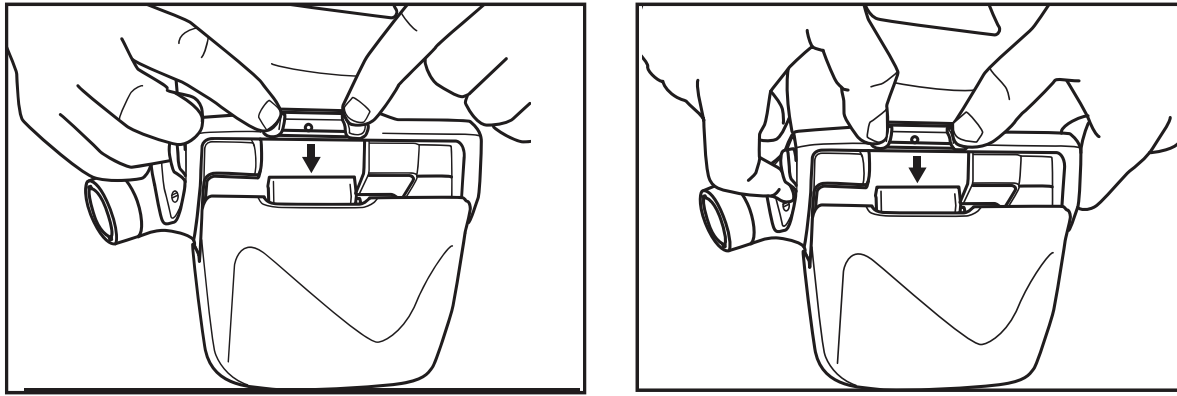

Fig. 6 Filter/Cartridge removal
- Hold the unit downwards so the back (belt side) faces you and the filter and cover face down on a flat surface (Fig. 6) to help minimize the potential for contamination of the motor/blower inlet.
- Press the blue filter latch on the left side (Fig. 6). The latch requires two fingers to engage. Pull the filter/cartridge out and away from the motor/blower.